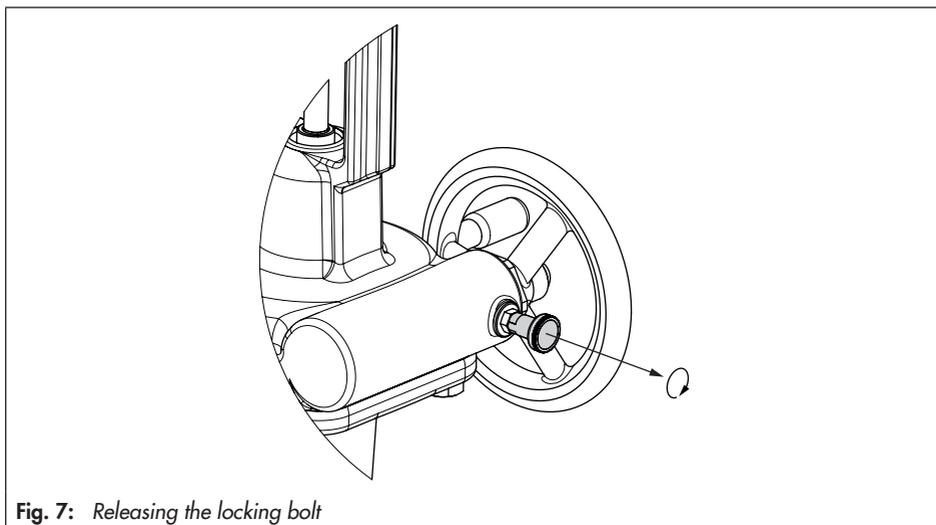

Fig. 7: Releasing the locking bolt
1. To change from automatic to manual operation, unlock the handwheel by pulling the locking bolt and turning it 90° (see Fig. 7).
- Lock the handwheel by turning the locking bolt by at least 90° until it engages again (see Fig. 7).
- Turn the locking bolt by at least 90° until it engages again to lock the handwheel (see Fig. 7).
- Pull the locking bolt and turn it 90° to unlock the handwheel (see Fig. 7).